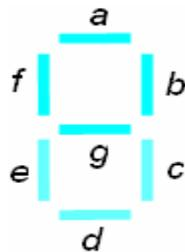

Figure.1: seven-segment display
The display has seven separate bar-shaped LED's arranged as shown in figure.1. In addition, many seven-segment displays have one (or two) circular LED used as a decimal point.
The lower case letters, a-g, represent the segments on the display while the upper case letters A-D represent the BCD input. Observe that A is the least-significant bit of the BCD input. Complete Table.4, The seven output of the decoder (a, b, c, d, e, f, g) corresponding the segment display of Figure.1.
3. Connect the 0 input to one of the remaining pins of the chip, and find the segment that lights up (is it a, or b, or c...) based on Figure.1.